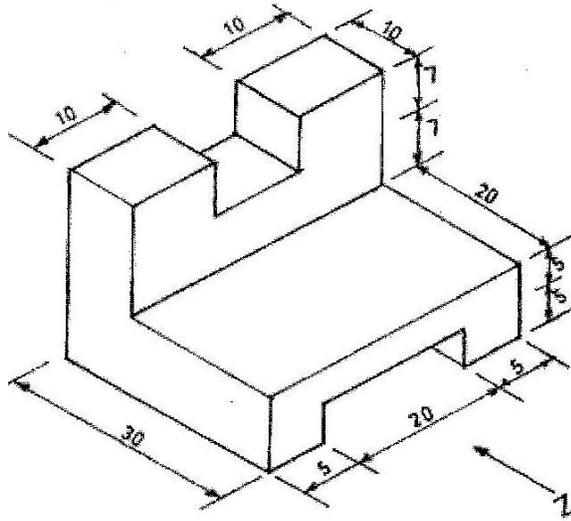

Figure 1
2. (a) Figure 1 shows the isometric view of a wooden stand.